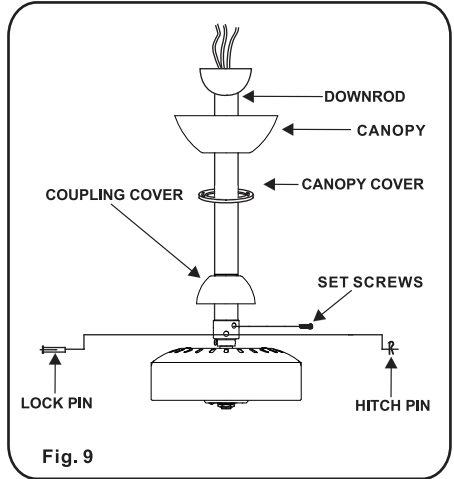

Fig. 9
Step 5. Slip coupling cover, canopy cover and canopy onto downrod. (Fig. 9) Carefully reinstall hanger ball onto rod being sure that cross pin is in the correct position, set screws are tighten and wires are not twisted.